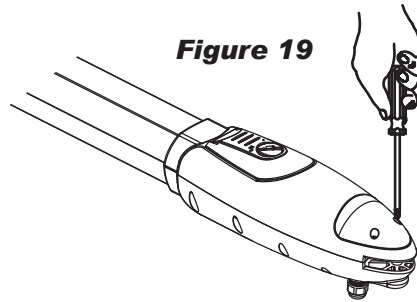

Figure 19
5. Loosen the two screws and remove the back cover of the motor as shown in **Figure 19**.